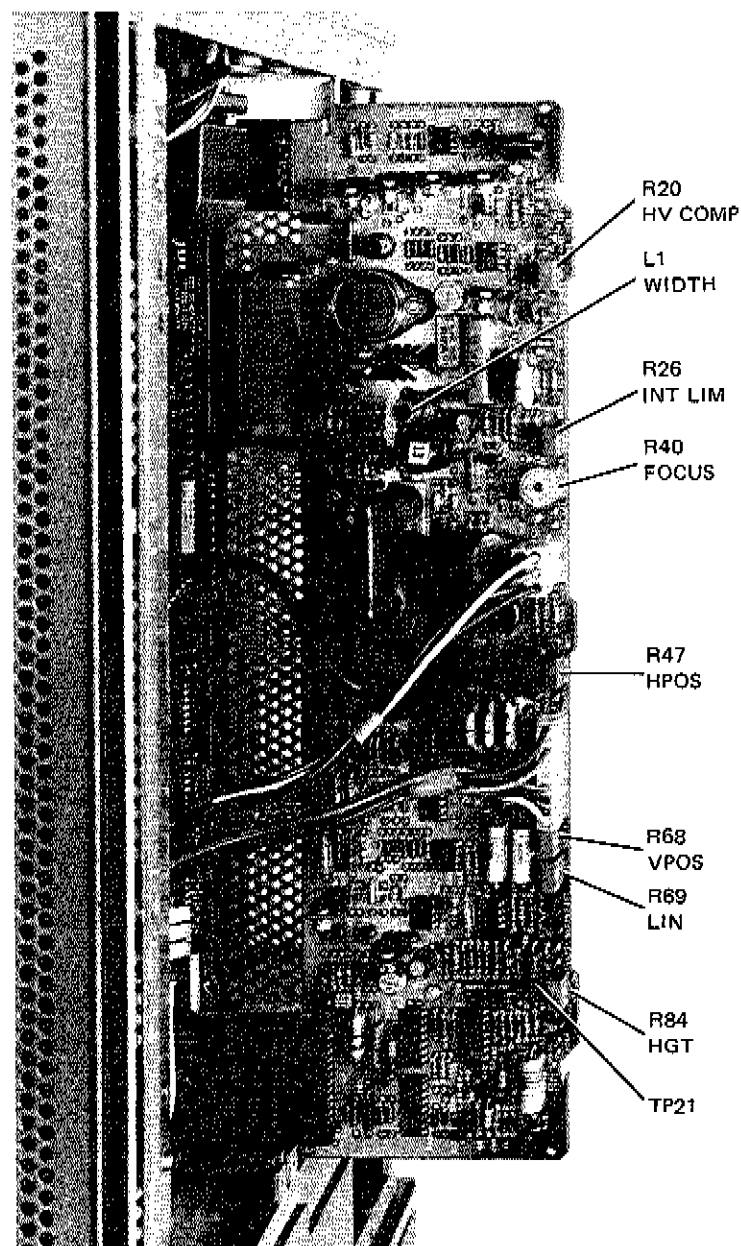
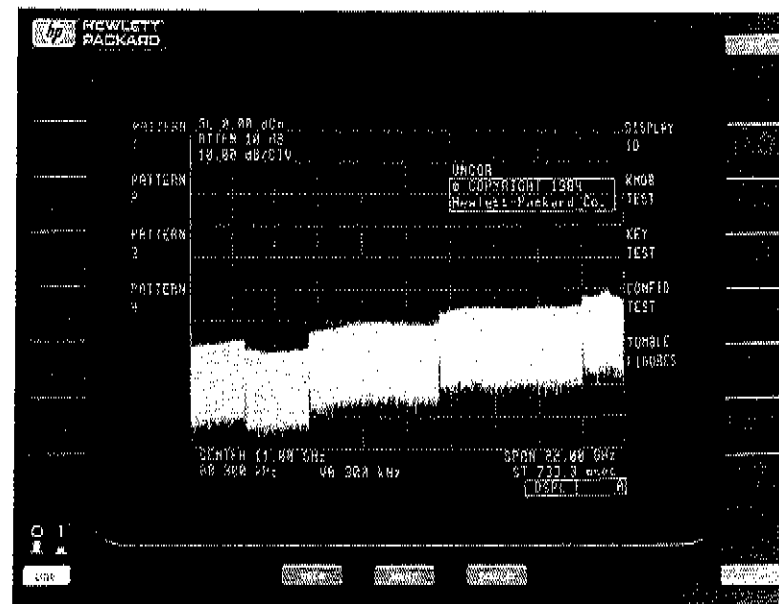
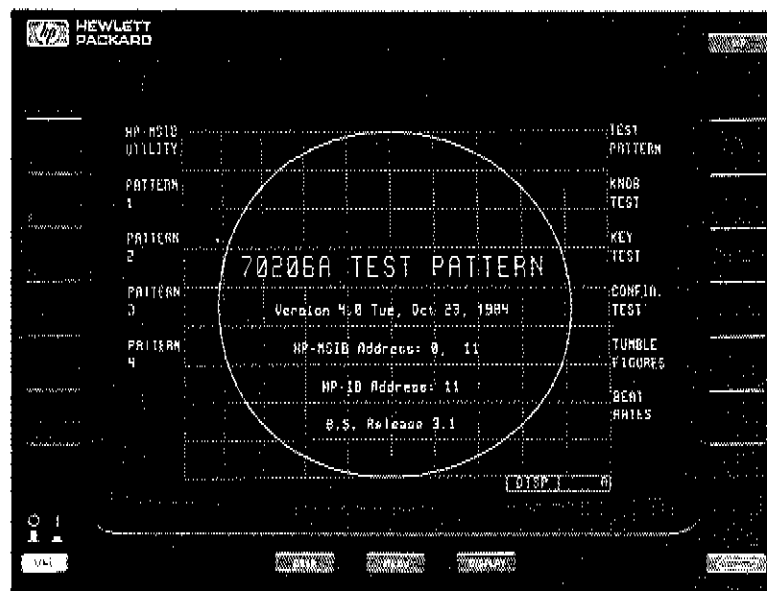

Figure 5. Adjustment & Test Point Locations
Figure 9. Display Tests Screen
Figure 10. Test Pattern
4. When the Display Tests Screen (Figure 9) appears, select the desired Test Pattern (see Figure 9).
- a. Obtain the Display Tests screen (see Figure 9) following the procedure in step 4. Press DISPLAY ID soft key to obtain Test Pattern. (Test Pattern is shown in Figure 10).
- b. Adjust A2R40 - FOCUS (refer to Figure 5 for location) until all characters and figures are focused.
- d. Adjust A2R26 - INT LIM (refer to Figure 5 for location) to obtain a 300 mV peak-to-peak square wave.
- b. Adjust A2R20 - HVCOMP (refer to Figure 5 for location) until the left and right edges of the blinking figure align with display borders.
- c. Adjust **A2R47 - HPOS** and **A2L1 - WIDTH** (refer to Figure 5 for location) until all the characters for the soft key labels are completely visible on screen (refer to Figure 10).
- a. Obtain Test Pattern by following the procedure in step 4 (Accessing Adjustment Test Patterns), and pressing Display ID soft key (see Figure 10).
- b. Adjust A2R68 - VPOS and A2R84 - HGT (refer to Figure 5 for location) until the soft key labels are centered on each soft key (refer to Figure 10).
- c. Adjust A2R69 - LIN (refer to Figure 5 for location) until the graticule is symmetrical, with evenly-spaced lines (refer to Figure 10).